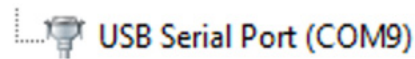

FIGURE 153: USB Port Example
6. A new port will appear on the list. The COM port is shown in parentheses (see Figure 153).